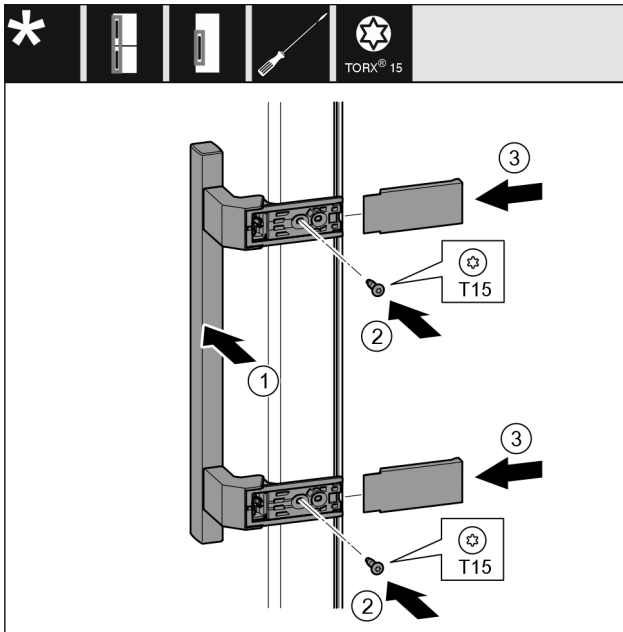

Fig. 24
- ▶ Place the handle Fig. 24 (1) on the opposite side.
- ▶ Tighten screws Fig. 24 (2) with screwdriver.
- ▶ Place the covers Fig. 24 (3) on the side and push them on.